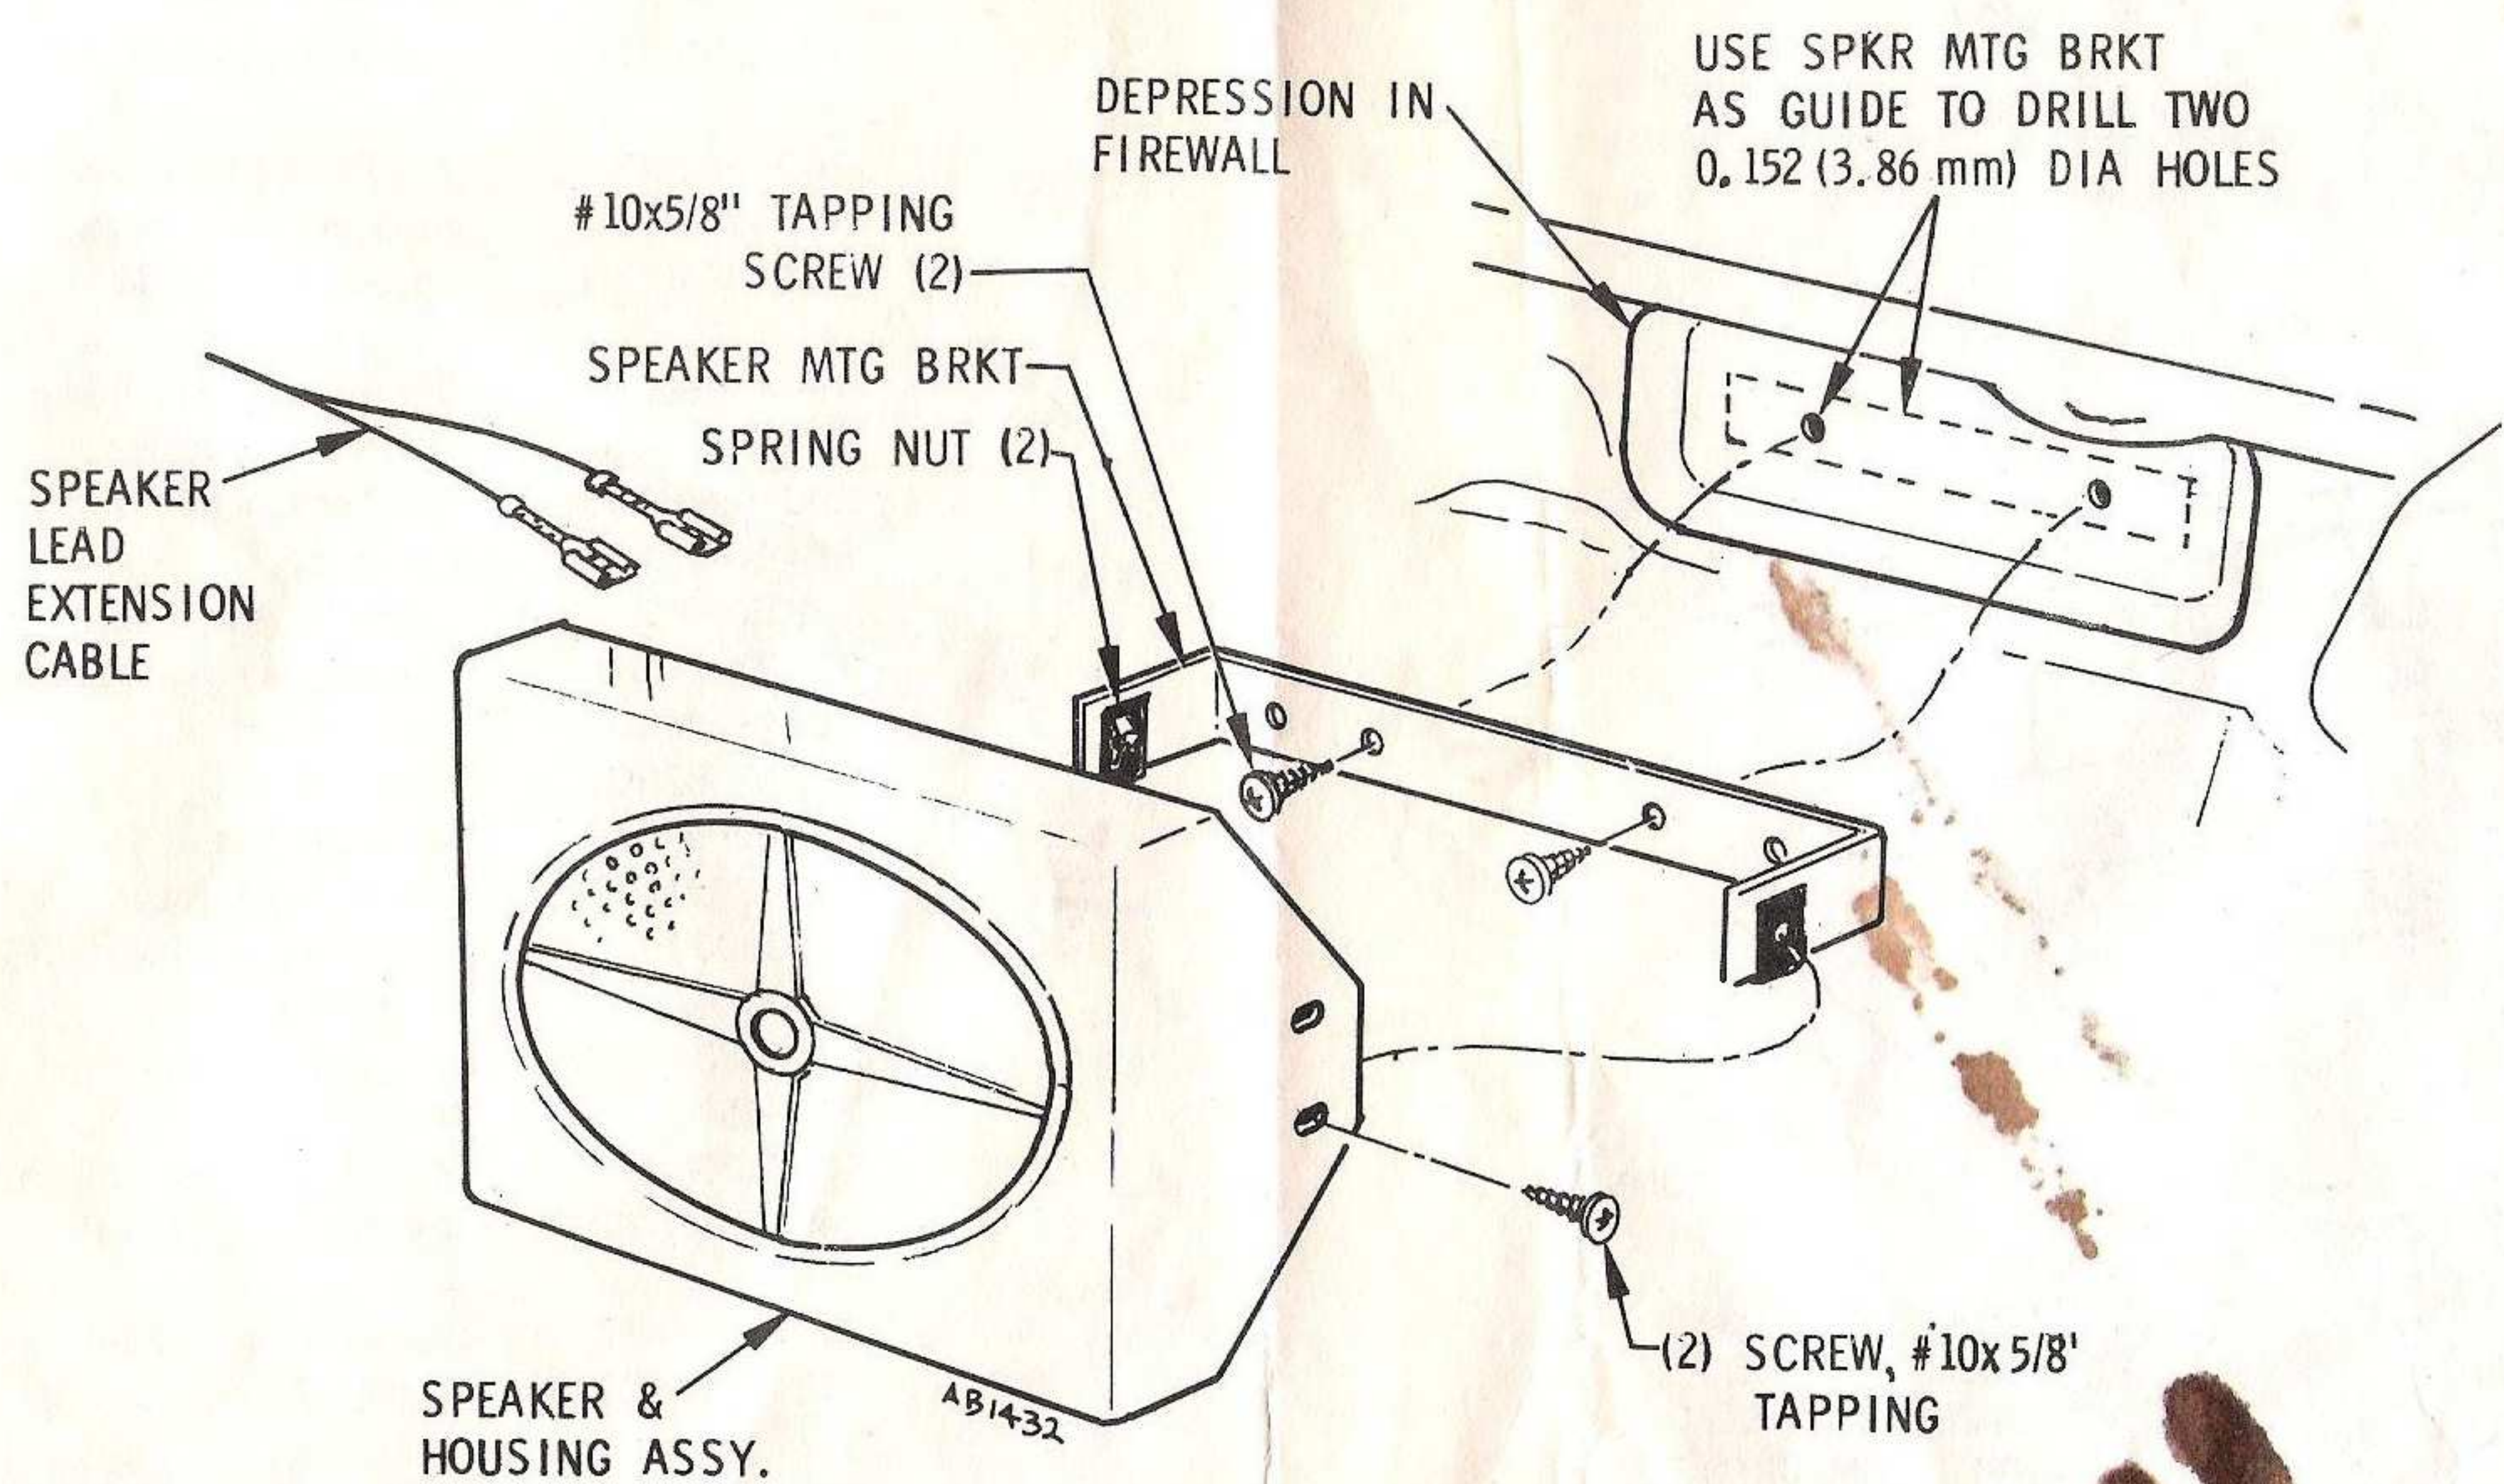

FIGURE 4
- Use speaker mounting bracket as guide to mark and drill two 0.152" (3.86 mm) diameter holes as indicated in Figure 4.
- Install speaker mounting bracket to firewall; then attach speaker and housing assembly to mounting bracket as indicated in Figure 4.